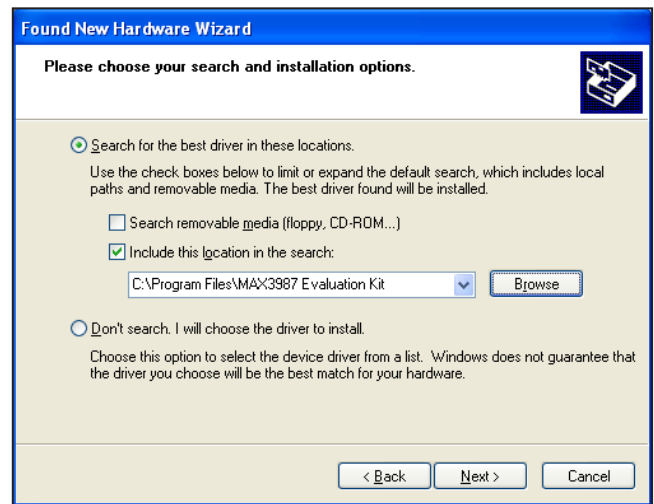

Figure 17. Driver Software Folder Selection
- 2) Check **Search for the best driver in these locations**, and check the **Include this location in the search** box. Click the **Browse** button and select the same installation directory used in step 3 of the GUI software installation instructions (the default directory is C:\Program Files\MAX3987 Evaluation Kit). Click **Next** to continue. The **Found New Hardware Wizard** searches for a short duration before continuing with the driver installation. See Figure 17.